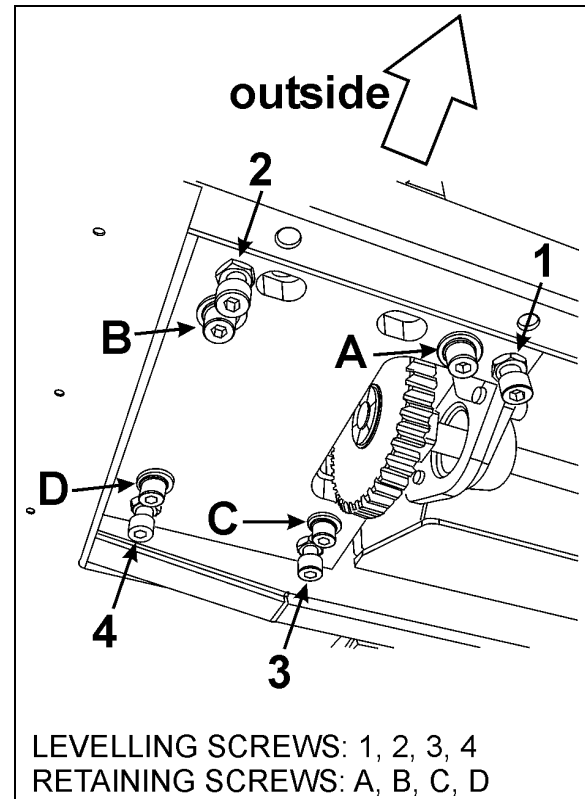

FIGURE 22 : SLIDE-OUT LEVELING
4. From the mechanism access panel, remove the retaining screws A, B, C & D (see FIGURE 22).
Leveling of the slide-out is done by changing the linear bearing support plate height using the leveling screws 1, 2, 3, 4 (FIGURE 22). When proper level is attained, the retaining screws A, B, C & D maintain the support plate seated on the leveling screws. Also, the retaining screws prevent the slide-out from tipping inside the vehicle when it is retracted.
The slide-out is slightly tilted. When retracting, the upper "in limit" stoppers touch first the vehicle structure, followed by the lower "in limit" stoppers. Tilt adjustment is done by changing the linear bearing support plate inclination using the leveling screws 1 & 2 as pivot and 3 to adjust the angle (FIGURE 22).
2. From under the support plate, remove the acetal plastic block mounting screws (see the oblong holes on FIGURE 22).